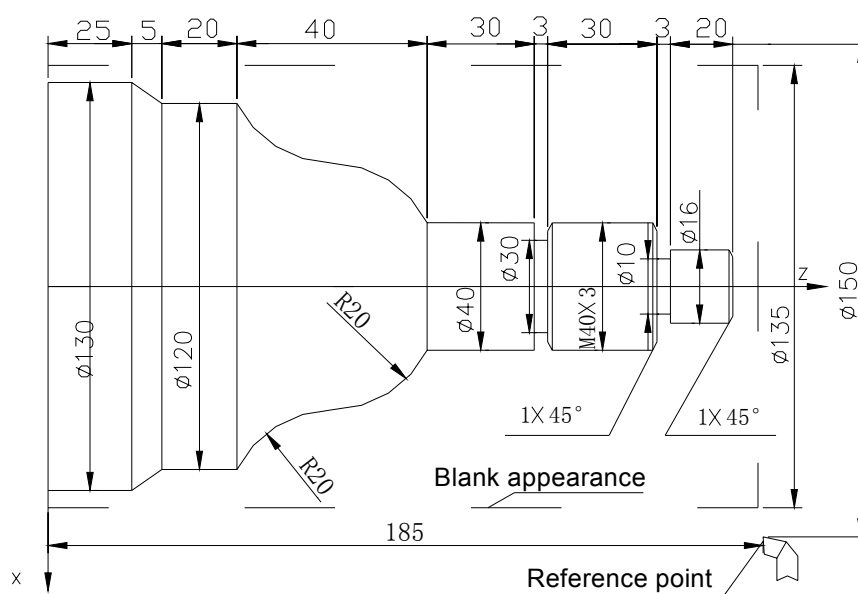

Fig. 36 Machining example
**Example 4 :** Compound machining as Fig. 36(G71, G92). Rod  $\Phi 135 \times 178$  mm .4 tools: